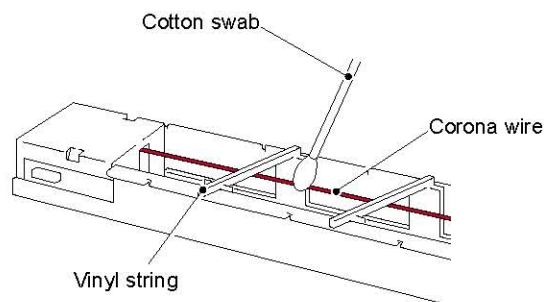

Fig. 6-6
- (4) Clean the discharger case housing with a cotton cloth.
- (5) Clean the corona wire and the inside of the charger case with a cotton swab. (Fig.6-6)
- (6) Re-install the charger unit into the transfer unit.